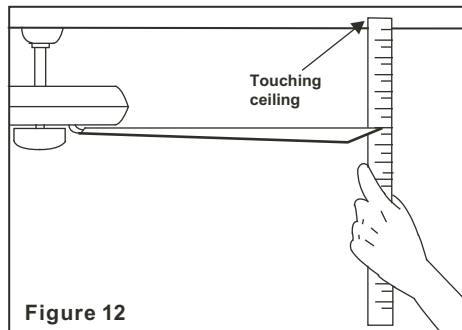

Figure 12
2. Most fan wobbling problems are caused when blade levels are unequal. Check this level by selecting a point on the ceiling above the tip of one of the blades. Measure this distance as shown in Figure 12. Rotate the fan until the next blade is positioned for measurement. Repeat for each blade. The distance deviation should be equal within $\frac{1}{8}$ ".